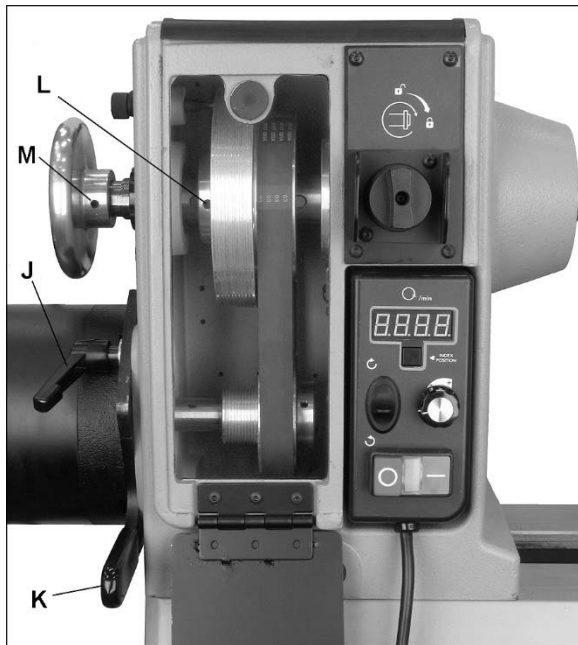

Figure 8-9: sheave/belt alignment
3. Loosen pivot lock handle (J, Figure 8-9) and lift up tension handle (K, Figure 8-9) to raise motor. Tighten pivot lock handle (J, Figure 8-9) to hold motor in raised position.
5. Loosen pivot lock handle (J, Figure 8-9) and lower motor to tension belt. Be sure that the Poly-V grooves of belt seat properly in the corresponding groove of sheave. Do not overtension; a very light pressure on the tension handle (K, Figure 8-9) is adequate to prevent belt slippage.
6. Tighten pivot lock handle (J, Figure 8-9).
The motor and spindle sheaves are aligned by the manufacturer, but if any service is performed that affects their alignment it is very important that they be realigned. To realign them, loosen the two set screws on spindle sheave (L, Figure 8-9) with a hex wrench, and slide spindle sheave into proper position. Retighten set screws.
2. Loosen lock handle (J, Figure 8-9) and lift up handle (K) to raise motor.
3. Tighten lock handle (J) to hold motor in raised position. Slip belt off pulleys.
4. Loosen two set screws on handwheel (M, Figure 8-9) with a hex key, and pull handwheel off headstock spindle.
9. If replacing spindle sheave, loosen two set screws (L, Figure 8-9), and slide sheave off spindle. Install new spindle sheave, loosely securing the two set screws. Make sure the sheave is oriented properly.
12. Reinstall handwheel and tighten set screws (M, Figure 8-9).
14. Align new sheave (see sect. 8.11) then tighten two set screws (L, Figure 8-9) securely on sheave.
15. Loosen lock handle (J) and allow motor to lower. Do not over-tension; a very light pressure on tension handle (K) is adequate to prevent belt slippage.
16. Retighten lock handle (J).